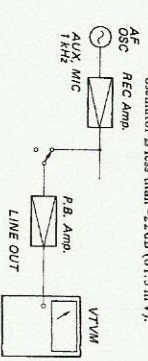

Fig. 12-33 Minimum input level check setup
- Connection: As shown in Fig. 12-33.